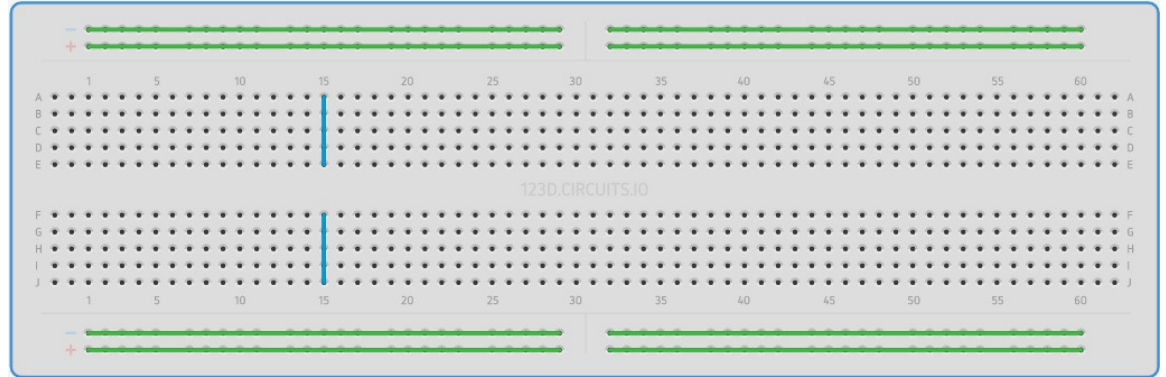

Figure 2.1: Bread board connections
1. Plug the display to the breadboard in Fig. 2.1 and make the connections in Table 2.2.